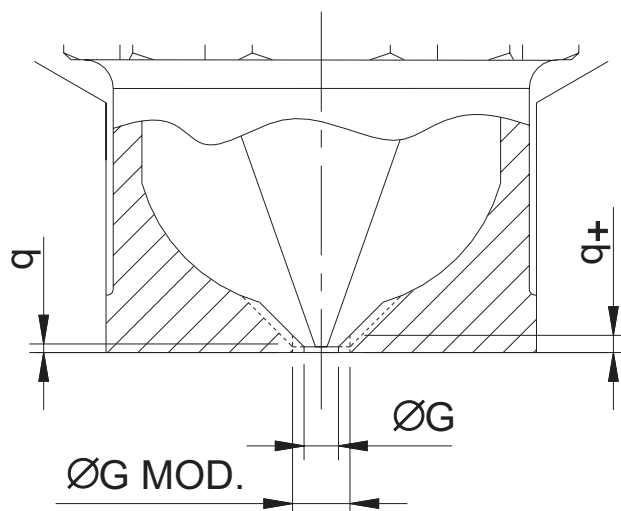

Fig 8.1
Figure 8.1 shows the best way to correct the land length (q) after an increase in gate size (G) in a bush nut. The modification is best done with a cutter and not EDM, as EDM can cause the gate to crack. Check the land length with plastercine. Contact **MASTIP** if you require specific details for your application.